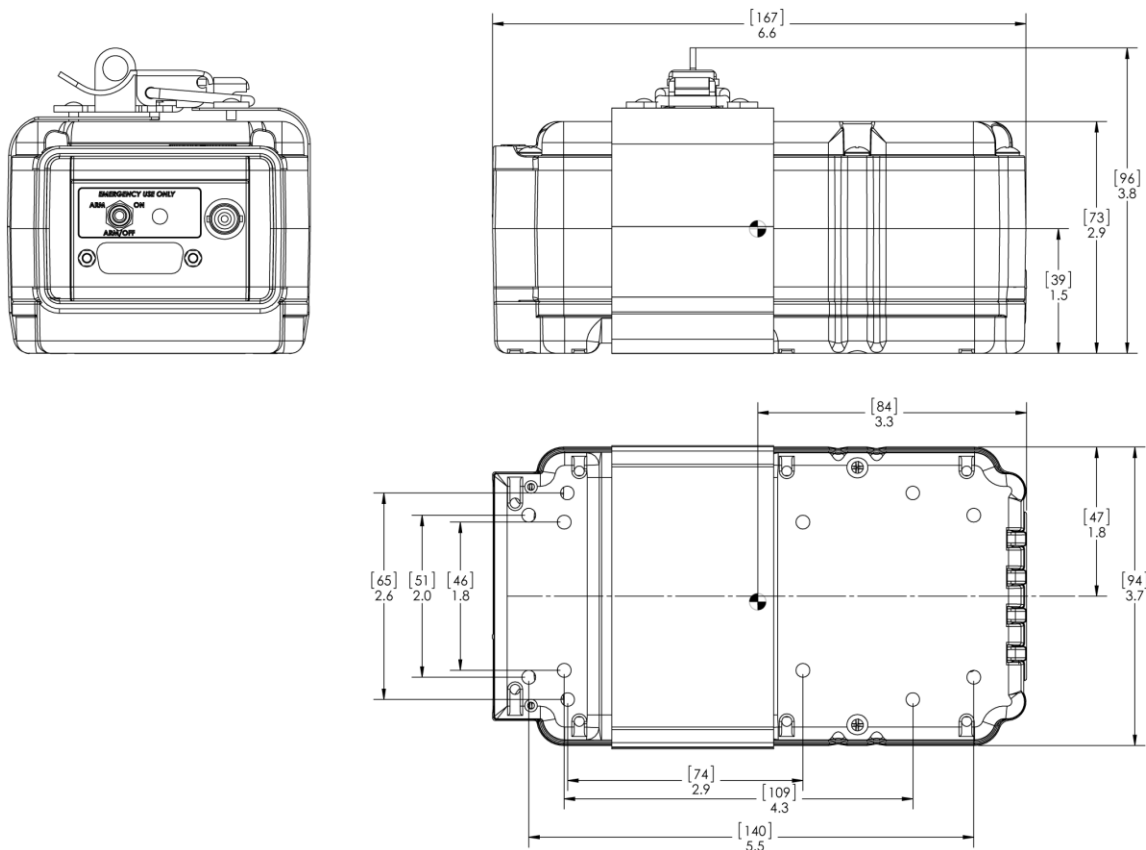
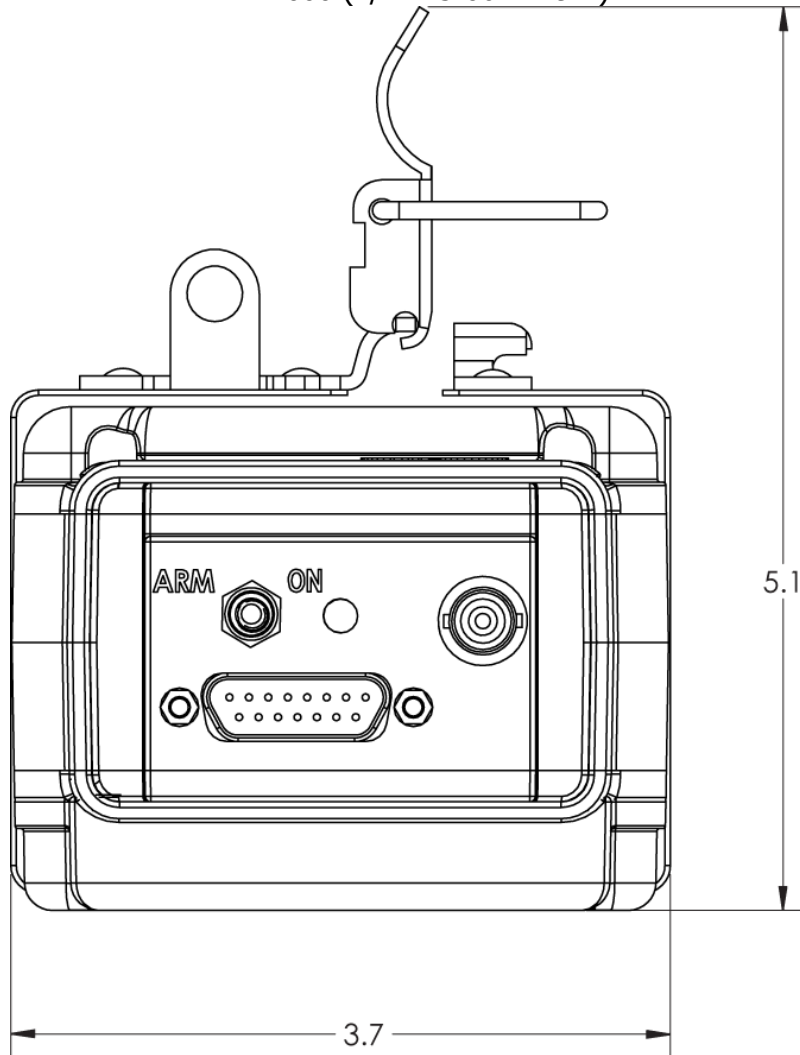

Figure 12 ARTEX ELT 1000 Outline & Dimensions
Figure 13 ELT 1000 Metal Strap Minimum Clearance Dimensions
- 1) Select a suitable location for the ELT mounting tray (see Figure 12 ARTEX ELT 1000 Outline & Dimensions on page 40 and Figure 13 ELT 1000 Metal Strap Minimum Clearance Dimensions above).
- 4) Mark and drill the four mounting holes with a #19 or 4.25 mm drill. Refer to Figure 12 on page 40 for the mounting hole pattern.